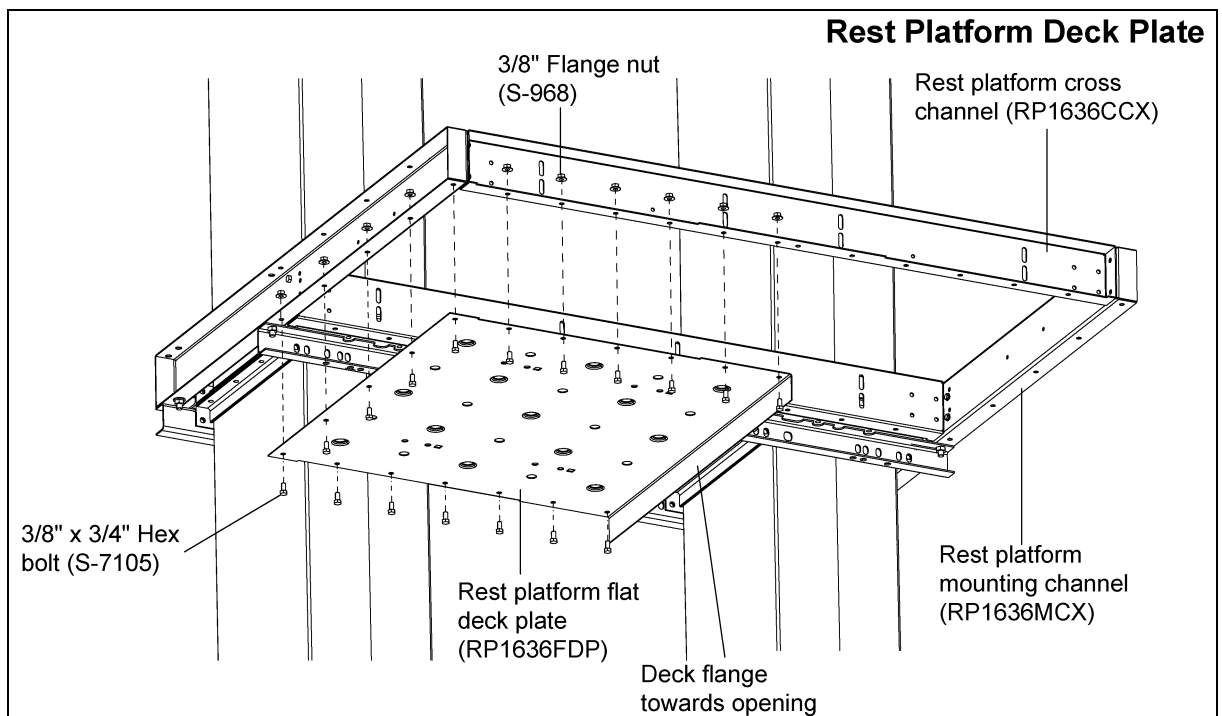

Figure 7G Deck Plate
2. Attach rest platform deck to the bottom of the rest platform mounting channels and rest platform cross channels, using 3/8" x 3/4" hex bolts. Bolt heads should be installed against the deck plate. (See Figure 7G.) **NOTE:** The deck plate can be mounted on either the right or left side, but the flange must be mounted towards the opening.